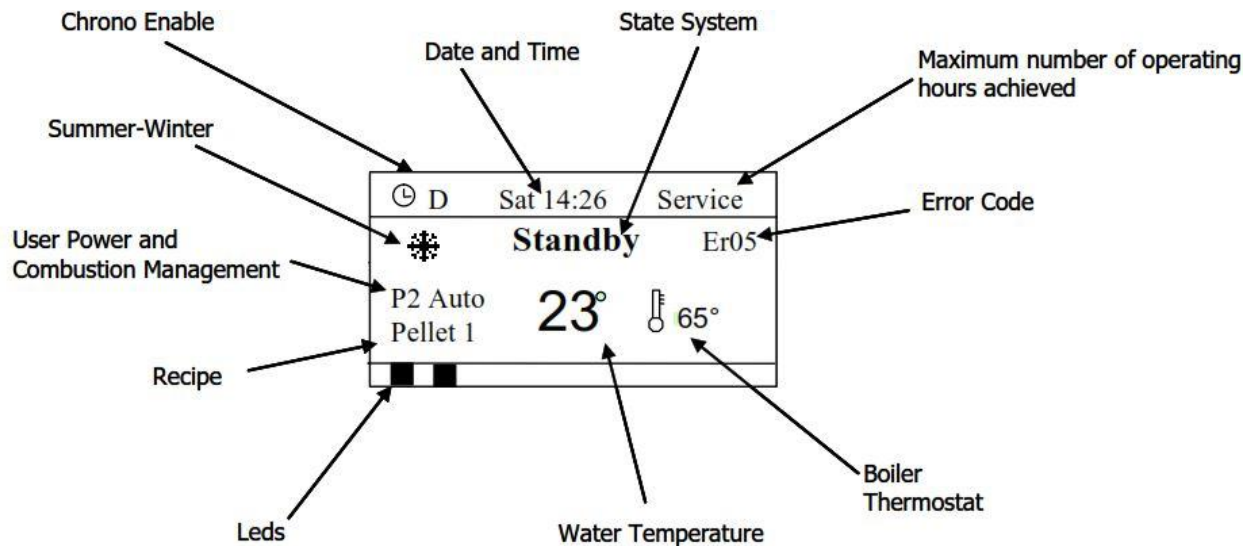
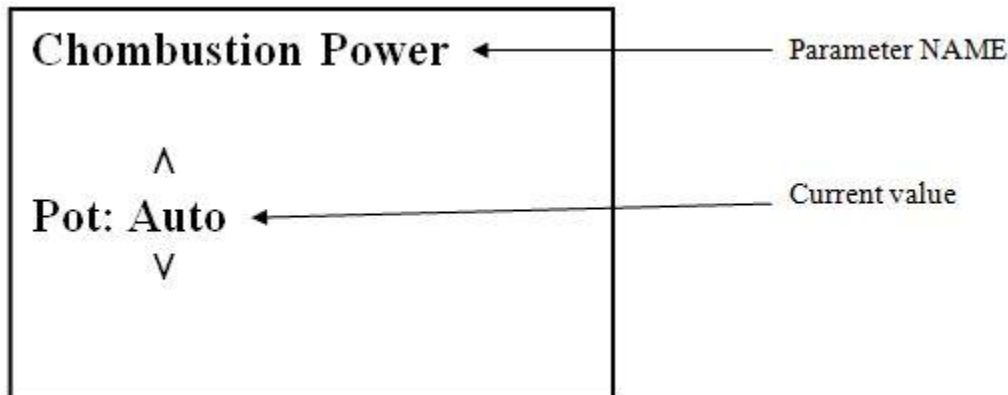

Figure 16. View of LCD screen on display
Figure 19. View and explanation of display in option Combustion Power
the view on display (**Figure 19**). With keys **P4** or **P6** you assign the
of the display (**Figure 16**), by pressing the key **P1**.
Press the key **P3** , after that the falling list is shown on the display, where the first option is automatically marked **Combustion Power**. With Keys **P4** or **P6** , you come to the option **Boiler Thermostat**. Confirm again with key **P3** , (appears to view a similar view like on **figure 19**), then with keys **P4** or **P6**   assign the temperature and at the end confirm again with key **P3** . Go back to the basic view on the display (**Figure 16**), by pressing the key **P1** .
- **STEP 4:** Initiate feeding system as the first grains of the pellet might fall into the combustion cup / space. (This procedure can be applied only when the Automation system is in OFF mode (**Figure 16** : state of regime))